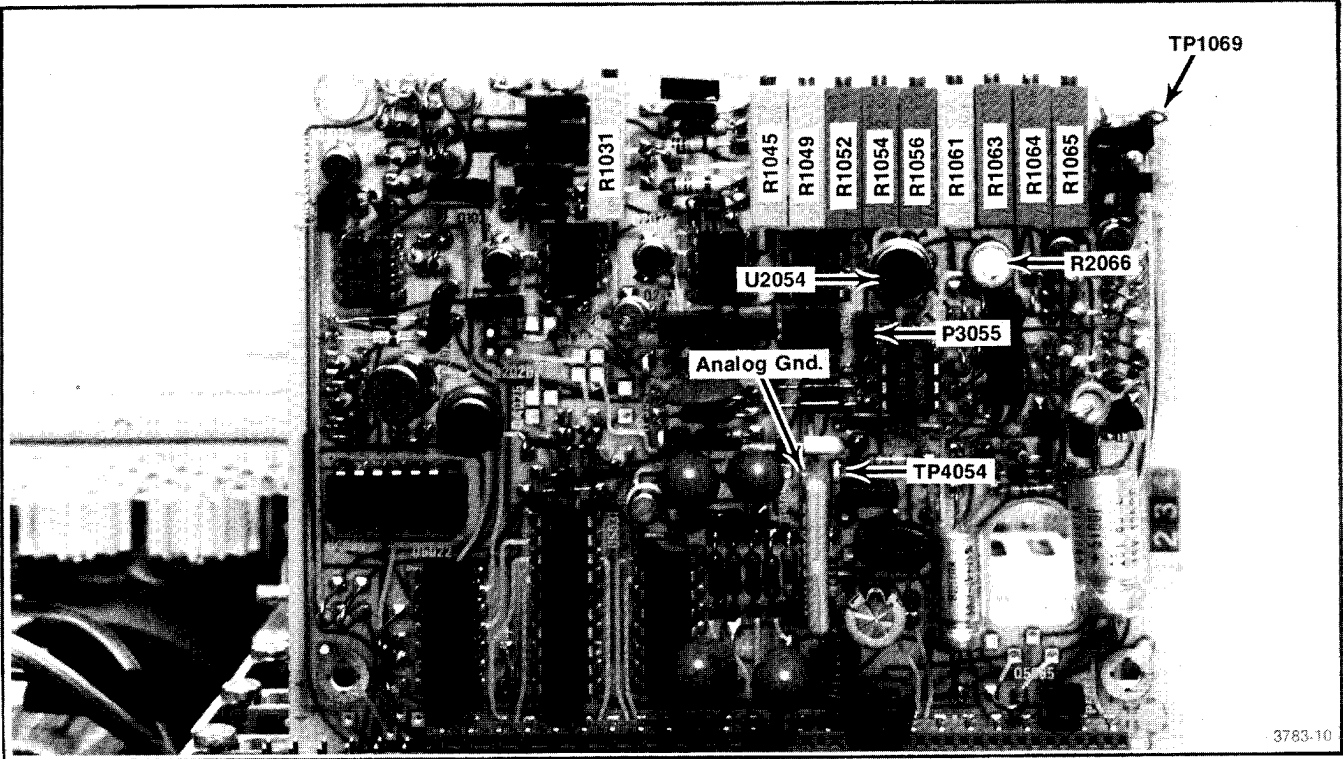

Fig. 3-52. Preselector Driver adjustments and test points.
- 2) pull P3055 and connect a voltmeter between TP4054 and analog ground (Fig. 3-52). Set the voltmeter range to 30 μ V or less;
- 3) adjust Driver Offset R2066 (Fig. 3-52) for 0 V;
d. Apply the CAL OUT signal to the RF INPUT. Set the REF LEVEL to −30 dBm, FREQ SPAN/DIV to 20 MHz and activate AUTO RESOLUTION. Select the 1.7—5.5 GHz FREQUENCY RANGE and adjust the FREQUENCY to center the 2.1 GHz marker. Center Input Offset adjustment R1031 (Fig. 3-52), press DEGAUSS button, and then center the 2.1 GHz marker on screen with the FREQUENCY control.
e. Ground TP1069 (Fig. 3-52), with a jumper strap and adjust the Preselector Offset (R1064) for maximum response of the 2.1 GHz signal. Remove the grounding strap and press DEGAUSS button.
f. Peak the 2.1 GHz signal with the −829 MHz IF Offset, R1049 (Fig. 3-52).
m. Increase FREQUENCY to the 12 GHz marker, press DEGAUSS, then peak the 12 GHz point with Shaper #1, R1054 adjustment (Fig. 3-52).
t. Adjust —829 MHz IF Offset R1049 (Fig. 3-52) to peak the 3.5 GHz response.